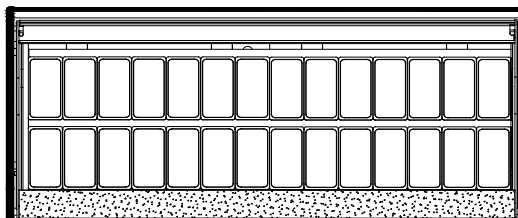

Fig.3 Layout of VGN containers in „Aruba”
2. Place VGN containers according to Fig.2 (p.12) or Fig.3 (p.12)